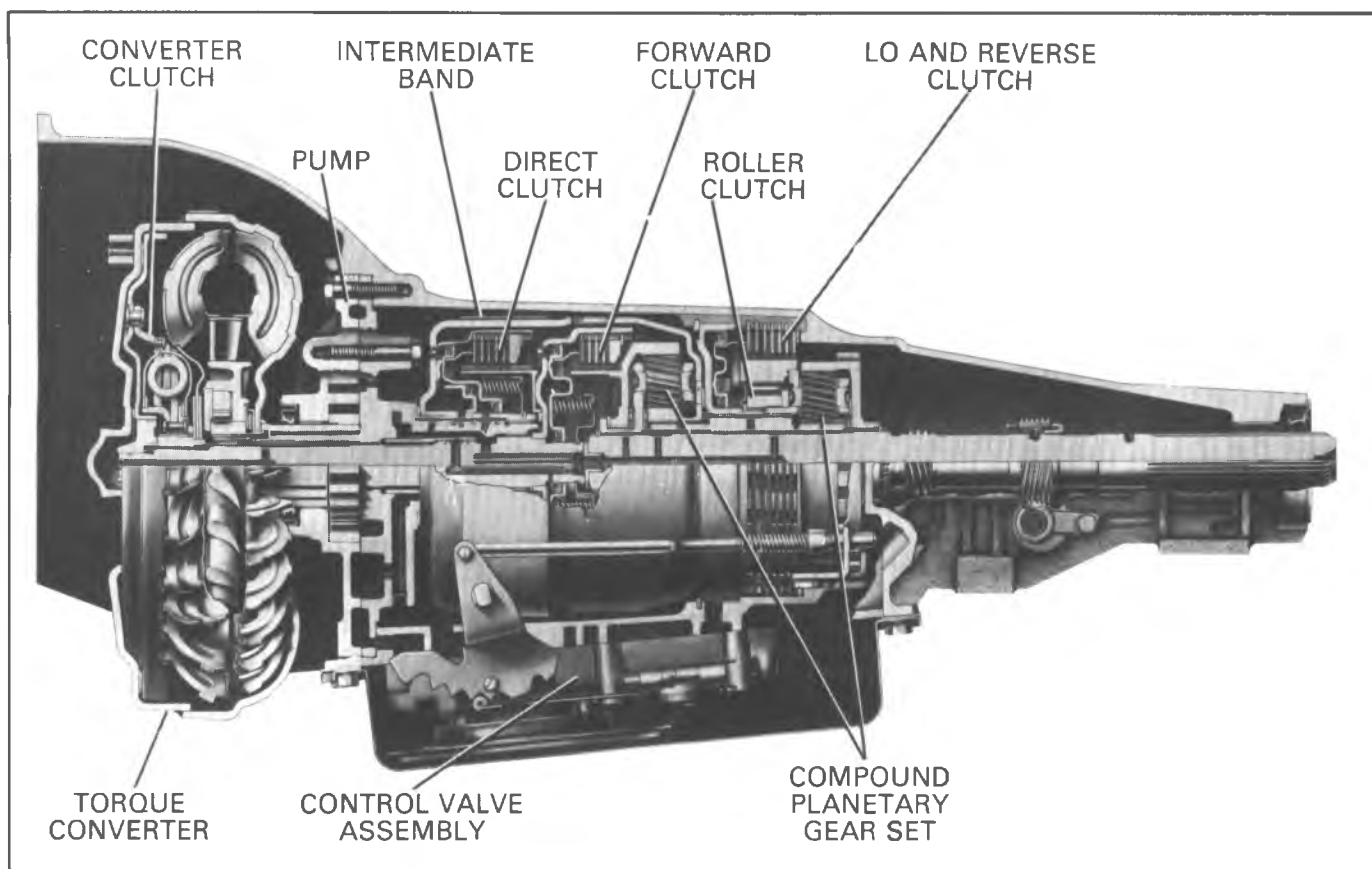

Figure 7A1-1 Cut Away View - 200 Automatic Transmission
1. Connect an oil pressure gage to the line pressure tap. Compare with oil pressure chart, Fig. 7A1-2.